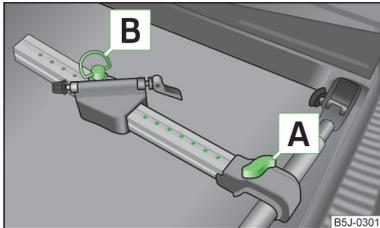

Fig. 73
- Remove bolt **A** » Fig. 73 a little and push the frame side rail (aluminium part) towards the cross member until the socket latches.
- Undo the bolt **A** » Fig. 73 on page 79 and push the bicycle carrier to the left together with the mounted bicycle to prevent a collision between the handlebars and the side window of the luggage compartment.